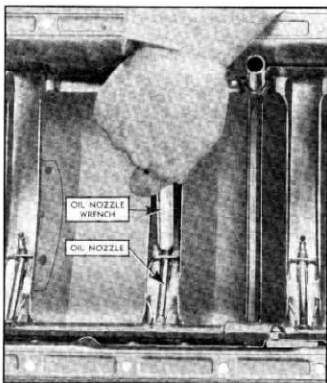

Fig. 28—Adjusting Aim of Oil Nozzles
- The aiming of the oil nozzles may be adjusted by using the oil nozzle wrench J-793-5 (fig. 28). Continue adjusting and checking the oil nozzles until each water stream passes through the center of its target hole.